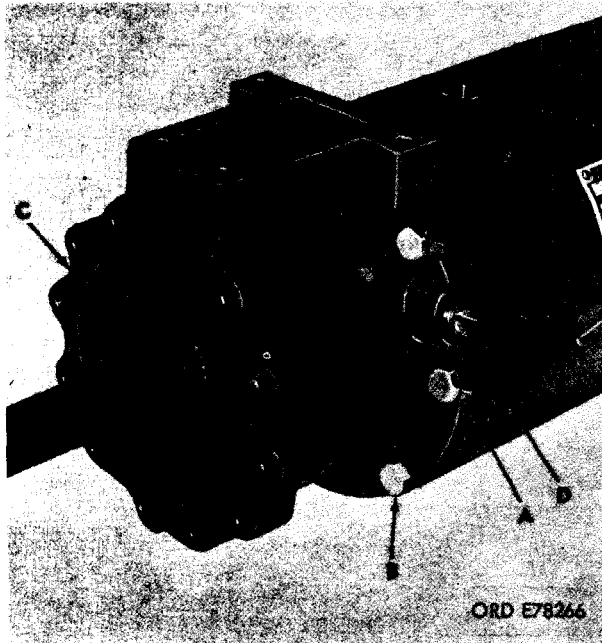

Figure 4-7. Removing or installing intermediate housing.
(4) Refer to figure 4-7 and remove intermediate housing as follows. (A) Bend tabs on tab washers to free cap screws. (B) Remove seven 1/4 x 7/8 hex head cap screws and 1/4-inch tab washers. (C) Remove intermediate housing from frame. If necessary, tap housing with a soft mallet or piece of wood to free housing. (D) Remove and discard 4-7/16-inch od preformed packing from groove in intermediate housing.